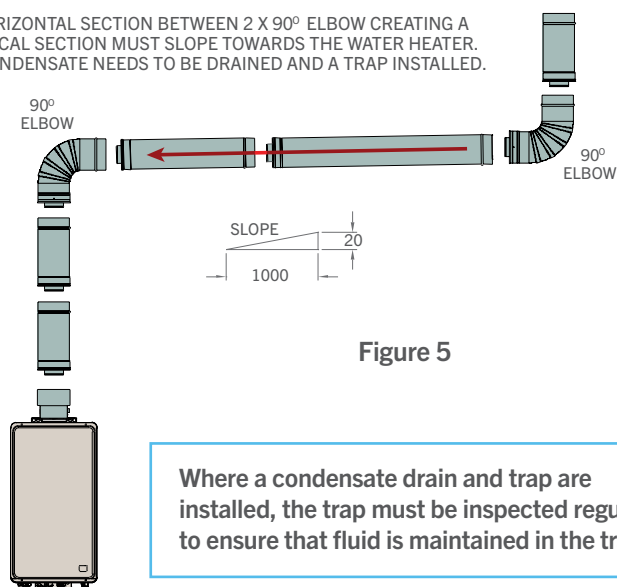

Figure 5
- Where 2 x 90° elbows create a vertical section in either through the wall or through the roof flue systems, the horizontal section between the elbows must slope towards the water heater and a condensate tube and trap assembly must be used to prevent condensate from pooling in the horizontal section, see Fig 5